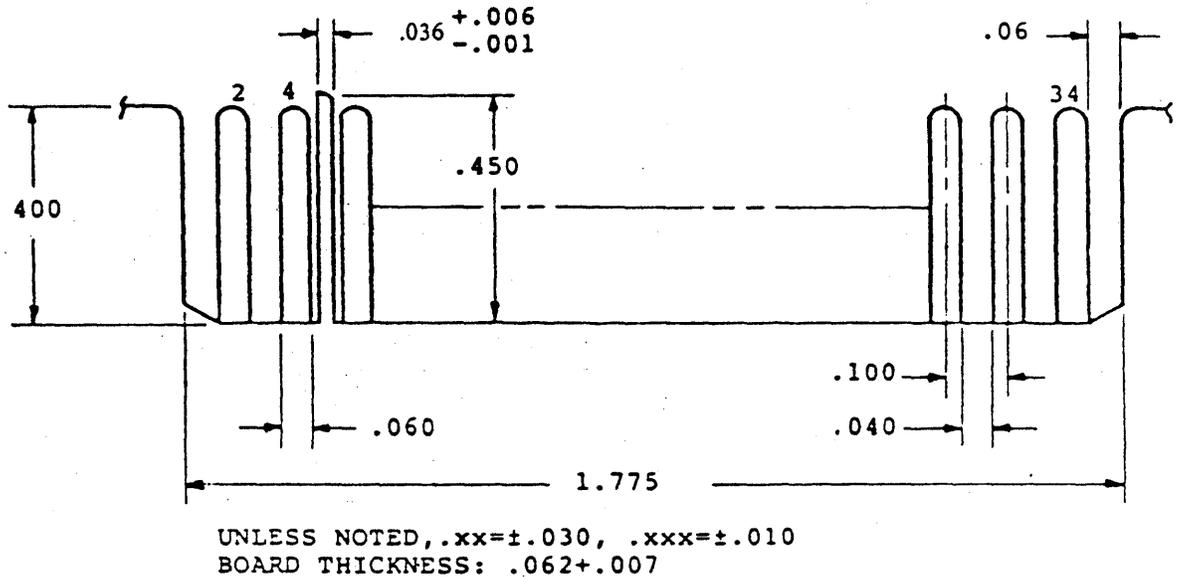

Figure 6-2. J1 Connector
6.2.1 **The J1/P1 Connector: Control Signals.** Connection with J1 is through a 34-pin edge connector. The dimensions for this connector are shown in Figure 6-2. The pins are numbered 1 through 34 with the even pins located on the component side of the PCB. Pin 2 is located on the end of the PCB connector closest to the DC Power connector J5/P5 and is labeled. The recommended mating connector for P1 is AMP ribbon connector P/N 88373-3 or Molex 15-35-1341. All odd pins are ground. A key slot is placed between pins 4 and 6.